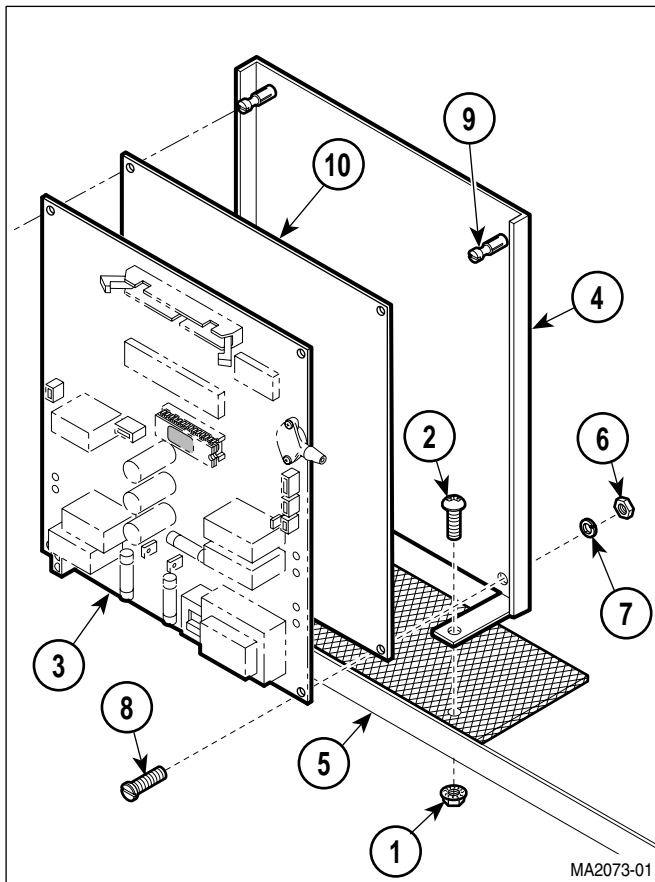

Figure 4-15. Control PC Board Removal / Installation
- (13) Remove two locknuts (1, Figure 4-15), screws (2), and control PC board (3) and control PC board bracket (4) as an assembly from base (5).
- (1) Install insulator (10, Figure 4-15) and control PC board (3) on control PC board bracket (4) and secure by turning three standoff screws (9) 1/4 turn in the clockwise direction.